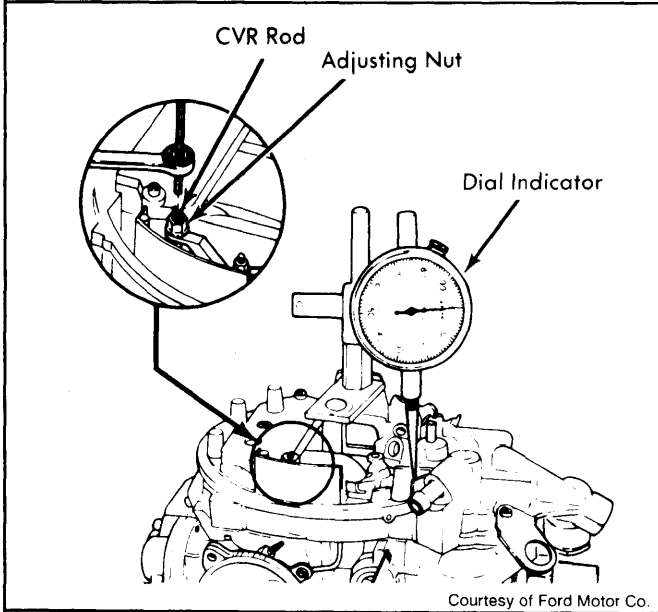

Fig. 5: Adjusting Control Vacuum Regulator
- 1) With dial indicator installed, push down on control vacuum rod until it bottoms against seat. Measure downtravel of rod on dial indicator. See Fig. 5.